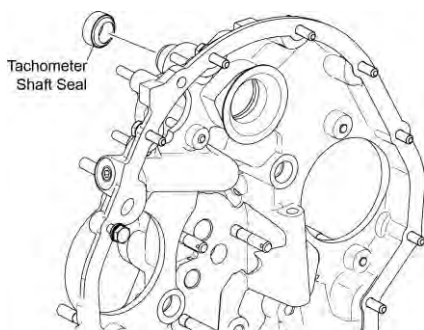

Figure 7
- A. Install the tachometer shaft seal (Figure 7).